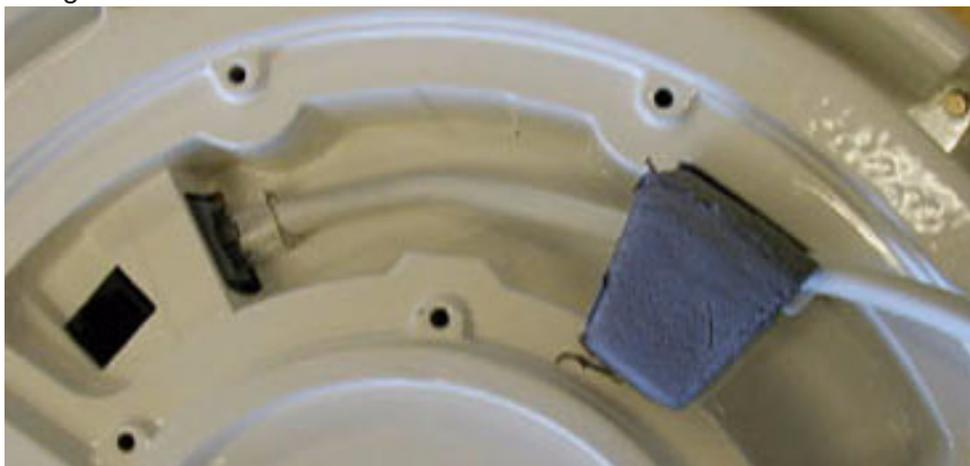

Figure 2-4 Install Ethernet Cable
1. Connect the Ethernet cable and push it into the gasket, as shown in Figure 2-4.